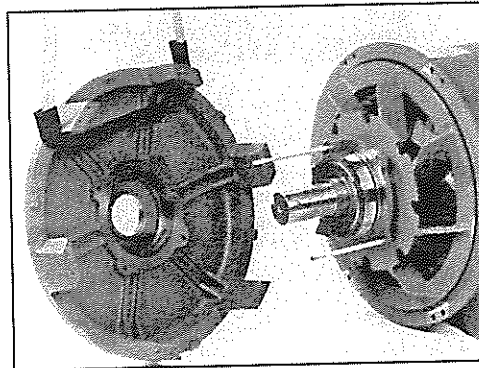
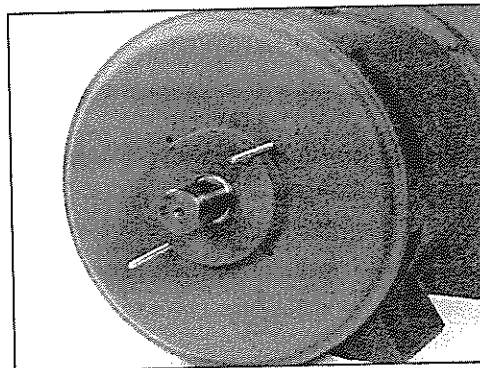
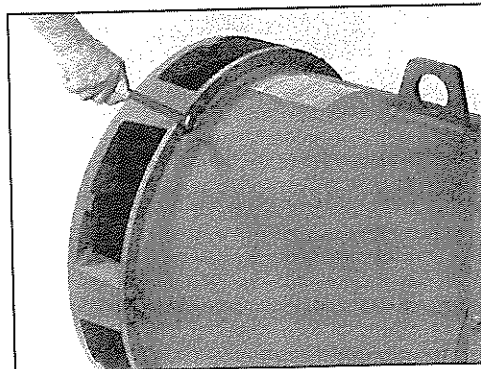

Figure 6-57
Figure 6-58
Figure 6-59
- b. For two-bearing generators, insert two guide pins in the rear bearing lock holes (figure 6-57). Fill the grease cavity of the drive end bracket 1/3 to 1/2 full of Exxon® Polyrex® EM (or equivalent) grease. Assemble all grease plugs in the bracket. Mount the bracket on the bearing and guide the bearing lock pins through the bracket holes (figure 6-58). Align the drive end bracket and mount with the capscrews (figure 6-59). Insert two capscrews with lockwashers into the bearing lock and tighten. Remove the guide pins and replace with the remaining two capscrews with lock washers. Torque bearing capscrews to 25 ft-lb (34 N-m). Torque bracket mounting capscrews per specifications given in section 12.